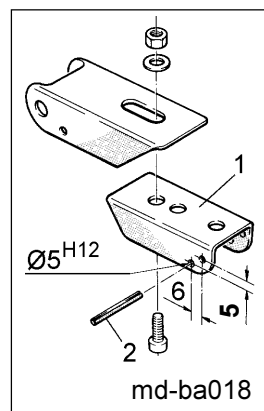

Fig. 18.45
- Remove expansion roll pin of the retainer ratchet (Fig. 18.45/1).
- Drill a new hole into the retainer ratchet according to Fig. 18.45 ($\varnothing 5_{H12}$ mm)
- Drive new expansion roll pin 5 x 33, DIN 1481 (Fig. 18.45/2) into the retainer ratchet